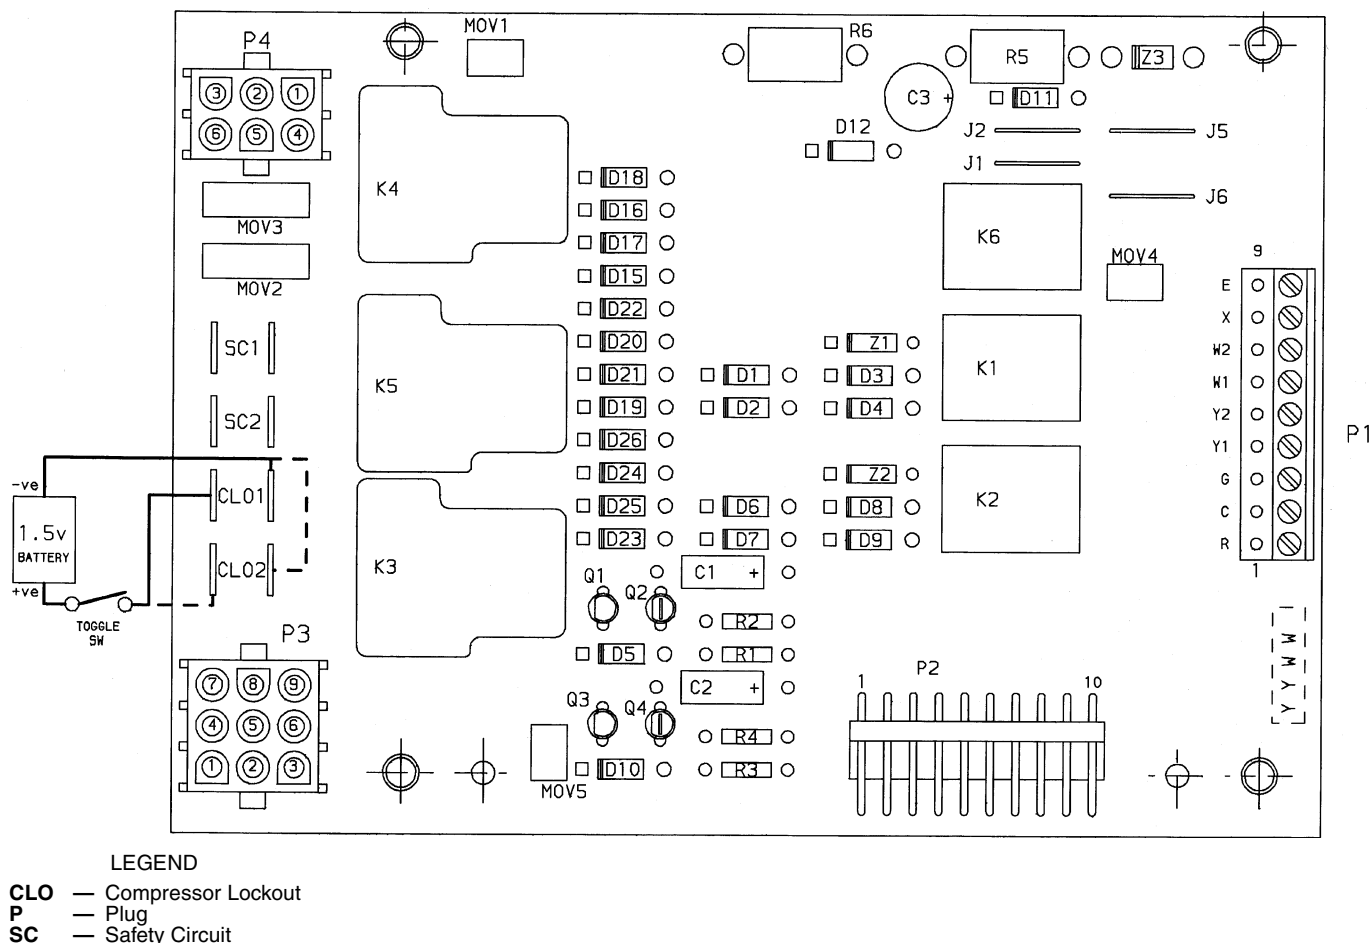

Fig. 135 — Compressor Lockout Conditions
- d. Turn unit power off. Use a toggle switch to connect a fresh 1.5-v battery to the terminals marked CLO1 as shown in Fig. 135.
The negative (–Ve) pole of the battery must be connected to the inner terminal, and the positive (+Ve) pole must be connected to the outer terminal as shown in Fig. 135.
- d. Turn unit power off. Connect a fresh 1.5-v battery to terminals marked CLO2 as shown in Fig. 135.